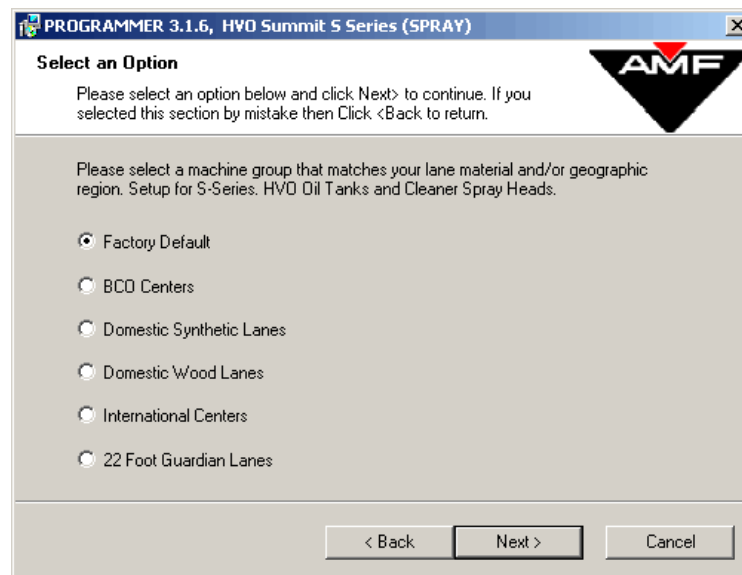

Figure 1-9
11. The next set of options asks for information about your lanes. Choose the option that best fits the lanes that you have. The Factory Default is already chosen for you as shown in **Figure 1-9**. Choosing Factory Default yields the same installation results as choosing Domestic Synthetic Lanes and should only be used if you are unsure what lane type you have. Your choice can be changed by reinstalling the program later if needed. Once the appropriate selection has been made, click on the **<Next>** button.